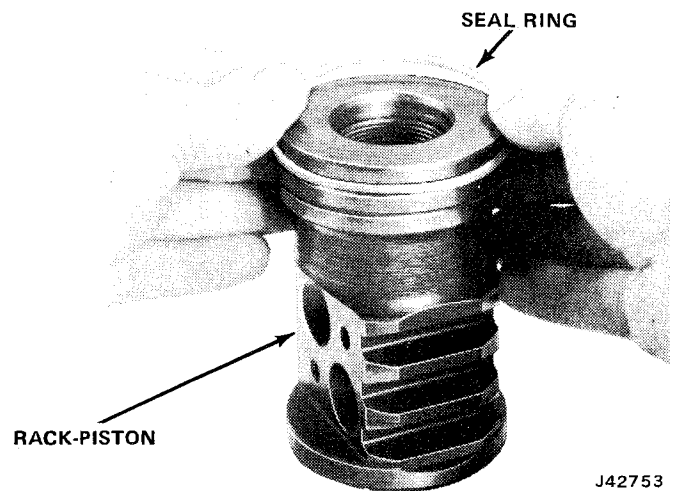

Fig. 2L-34 Seal Ring Installation
- (1) Lubricate all components with power steering fluid.
- (2) Install backup O-ring in rack-piston seal ring groove.
- (3) Install seal ring on top of backup O-ring (fig. 2L-34).